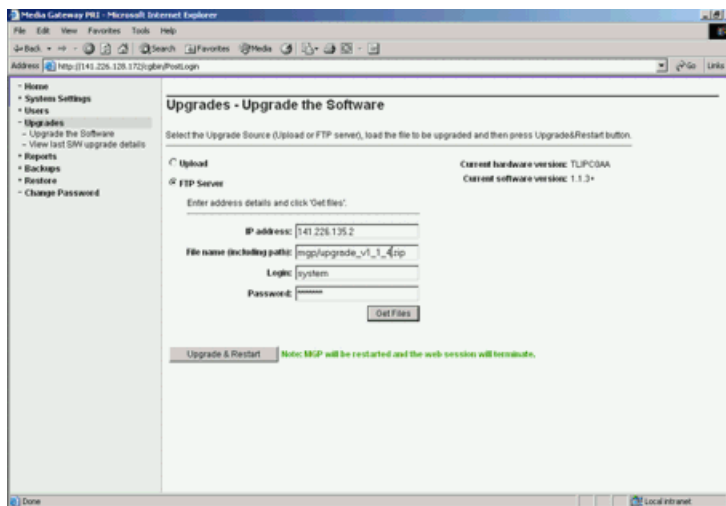

Figure 38: Upgrade the Software window
2. On the Home - System Overview window, click Upgrades > Upgrade the Software. See Figure 38: Upgrade the Software window on page 133.